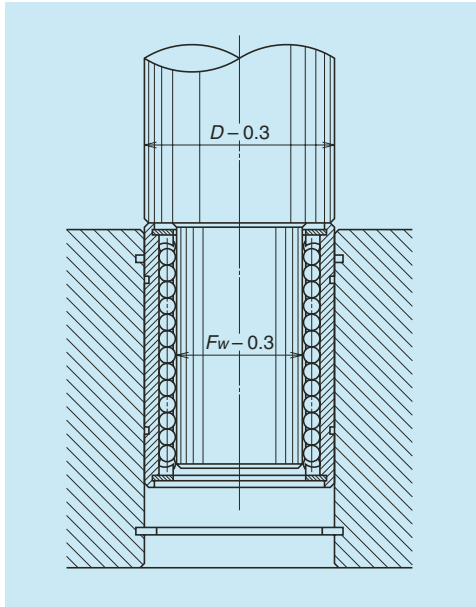

Fig. 10 Tool to install a linear rolling bushing
- b) To install linear rolling bushing, use a tool (Fig. 10) and squeeze it in, or use a holder and lightly pound it.